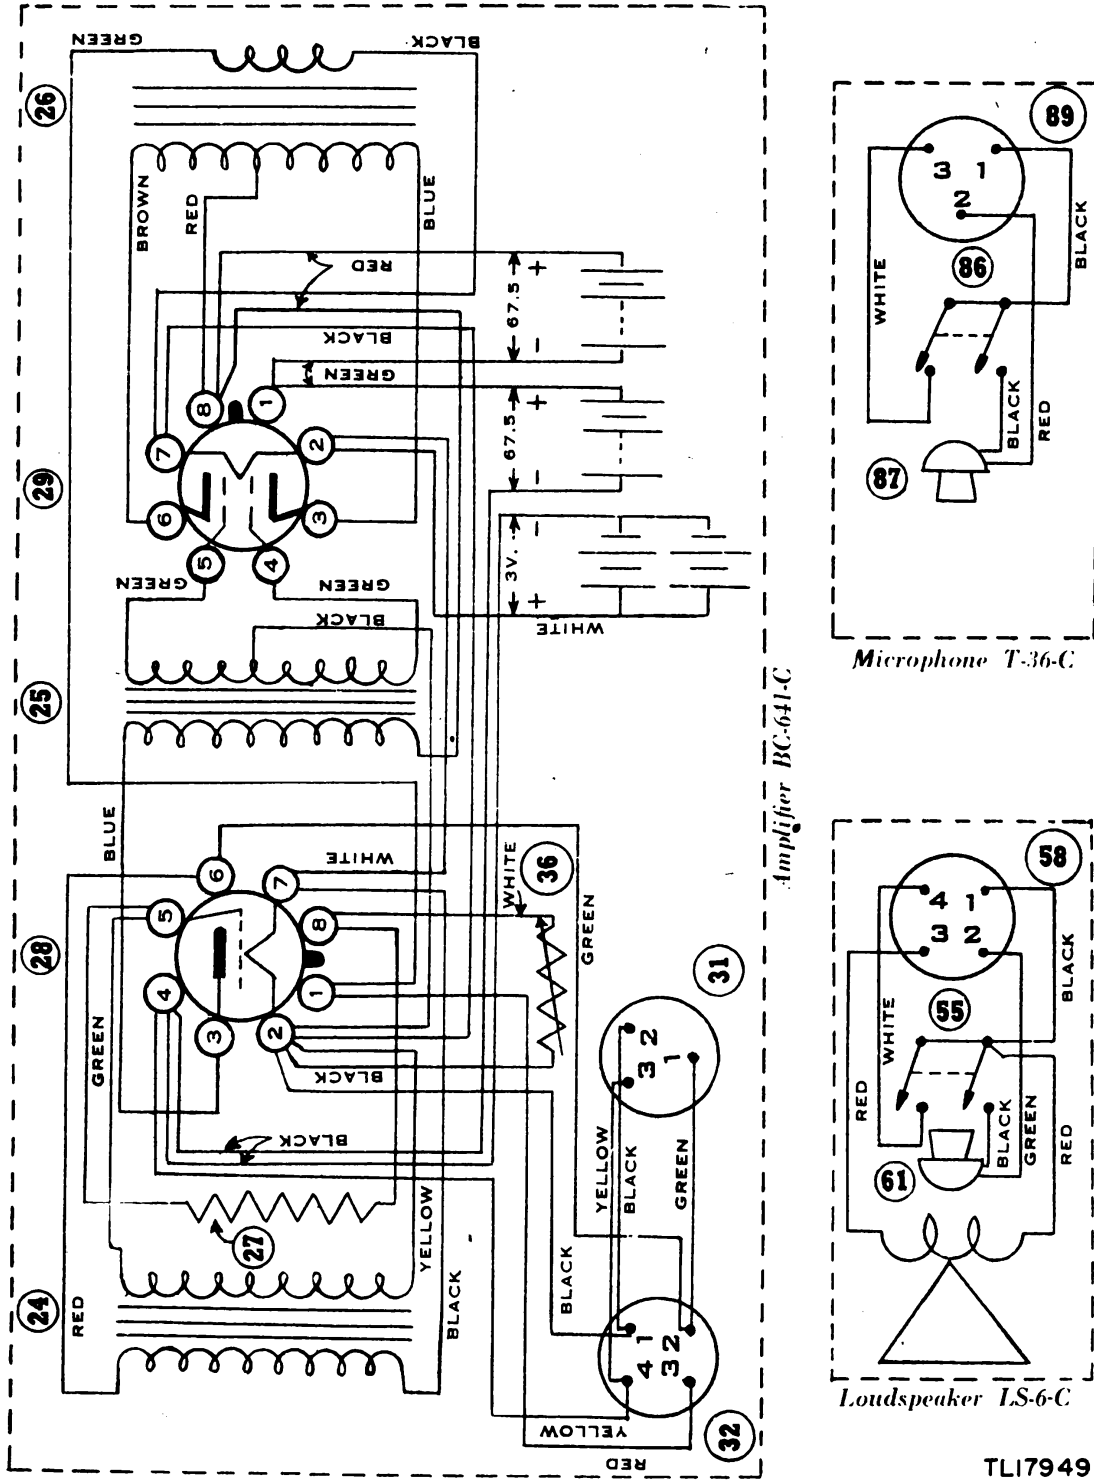

Figure 8. Public Address Equipment PA-4-C, schematic diagram
(1) Amplifier BC-641-C is a two tube amplifier employing a type 1H4G tube as a preamplifier for the microphone and also to drive the type 1J6G tube which is used as a push-pull, class B power-output stage. It uses a filament supply of 2 to 3 volts and a plate supply of 100 to 135 volts. Output impedance is approximately 3.5 ohms, and the input impedance is approximately 250 ohms for carbon microphone operation.
(2) The amplifier is set at fixed minimum gain, which is sufficiently low to prevent microphone feedback by means of a 2,500 ohm resistor (27) across terminals 8 and 5 of the first stage (see fig. 8). Adjust the volume control on the outside of the case to increase amplifier gain.
(3) No capacitors are used in this circuit. The microphone coupling resistor and the volume control are the only resistors used.
(4) The amplifier employs one tube type 1H4G and one tube type 1J6G.
a. Sound waves created by the voice of the operator strike the diaphragm of Microphone T-36-C (87) or the microphone (61) located on Loudspeaker LS-6-C (fig. 8). The vibration of the diaphragm actuates the carbon granules in the button causing its resistance to fluctuate. A fixed voltage of approximately 3 volts d-c is impressed upon this carbon button through the primary of the input transformer (24). The vibrations from the voice thus create